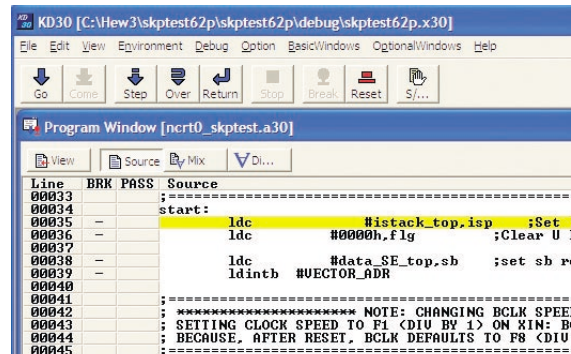

Figure 6. KD30 Program Window after download of skptest26
- d) After initialization, the KD30 Program Window will appear and our program, “skptest26.X30”, is automatically downloaded. The KD30 Program Window should look like Figure 6.